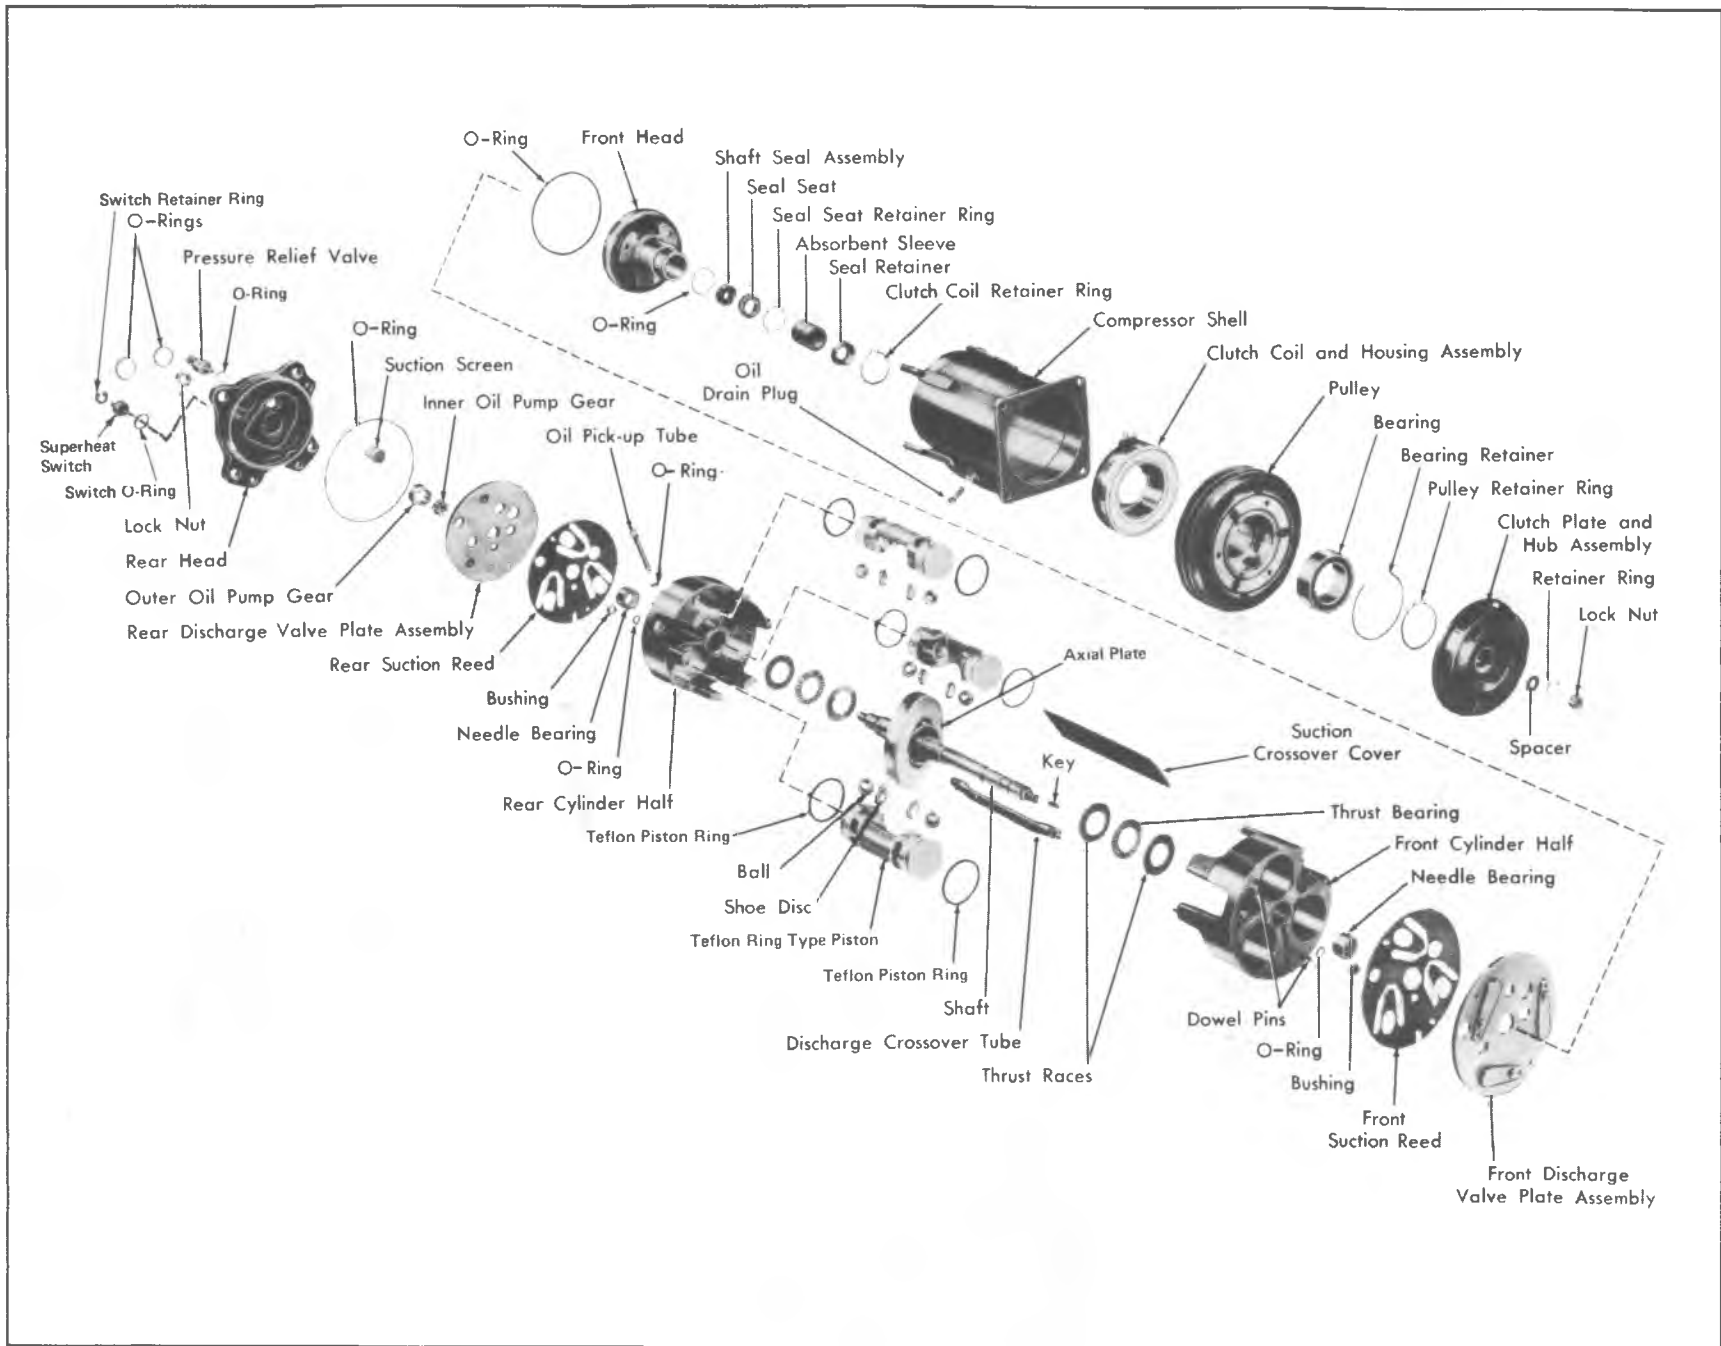

Fig. 1--Exploded View of A-6 Compressor
6. CHECK FOR PROPER OPERATING PROCEDURE OF THE ENGAGE SWITCH (SEE FIG. 1)
When servicing the compressor, remove only the necessary components that preliminary diagnosis indicates are in need of service. Refer to Fig. 1 and Fig.